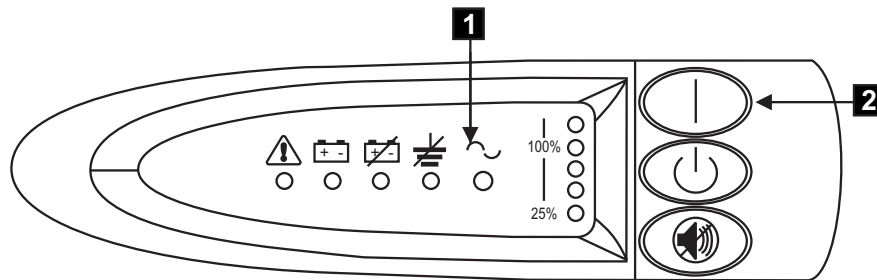

Figure 26. Power switch and indicators on the uninterruptible power supply
10. All front panel indicators of the uninterruptible power supply flash for a short time while the uninterruptible power supply runs a self test. When the test is complete, the mode indicator **1** flashes to show that the uninterruptible power supply is in standby mode (see Figure 26).
Press and hold the uninterruptible power supply on switch (**2** in Figure 26) until you hear the uninterruptible power supply beep (approximately one second). The mode indicator stops flashing and the load level indicators display the percentage of load that is being supplied by the uninterruptible power supply. The uninterruptible power supply is now in normal mode, and is charging its battery.